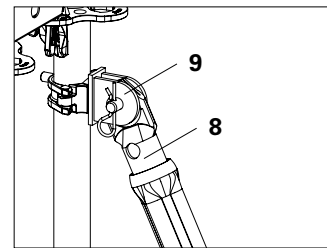

Fig. A3.01a
2. Fix Push-Pull Prop (8) with bolts and cotter pins. (Fig. A3.01a)